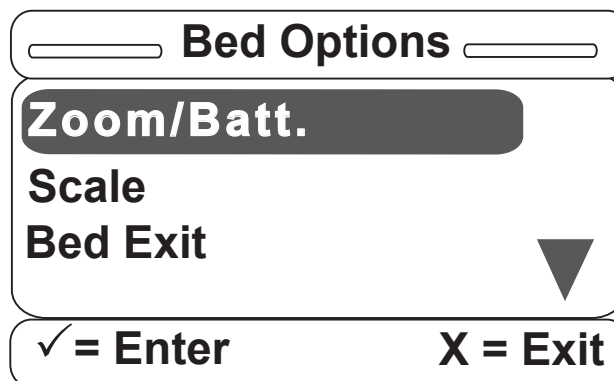

Figure S-5
5. Once the Bed Option item is selected, the menu in Figure S-5 will be displayed on the screen. **Each option must be set to OFF, ON or a variety of the option** (i.e., Zoom®/Batt. or Bed Exit). **Configure each option in the order presented on the screen** (i.e., set the Zoom®/Batt. option before the Scale option, which should be set before the Bed Exit option, which should be set before the Awareness option).